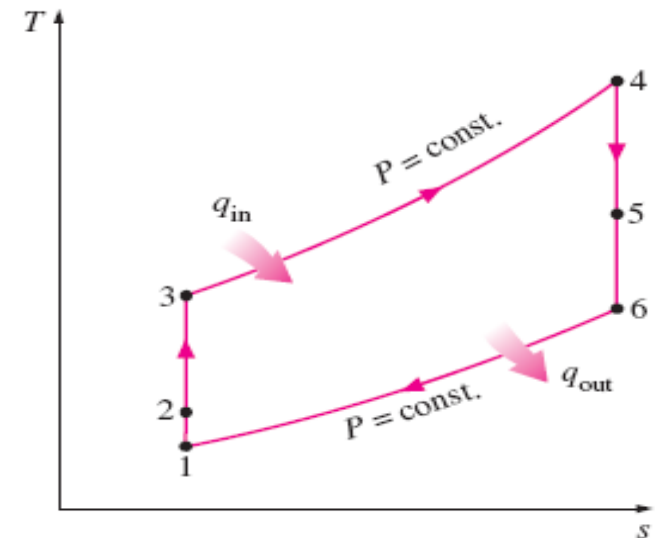

Fig 9b: T-s diagram for ideal turbojet cycle
1. Exhaust gases are not expanded to ambient pressure in IJP (Fig 9b)